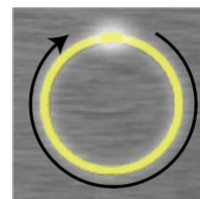

Figure 3
5. The display ring will light up yellow and pulse. See figure 3.